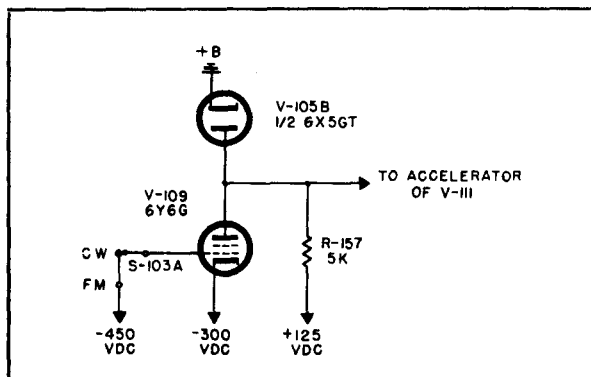

Figure 3-17. Switching Arrangement for CW and FM Operation
g. CW and FM OPERATION.-On both CW and frequency-modulated CW of the reflex klystron oscillator (figure 3-17), the grid of V-109 is tied to a point below cut-off so that the plate of V-109 is at a high dc potential with respect to the cathode of V-111. Since the plate of V-109 is directly connected to the accelerator grid of the reflex klystron, and since the grid of the klystron is at a potential high enough to allow the tube to oscillate, continuous wave oscillation of the klystron occurs.